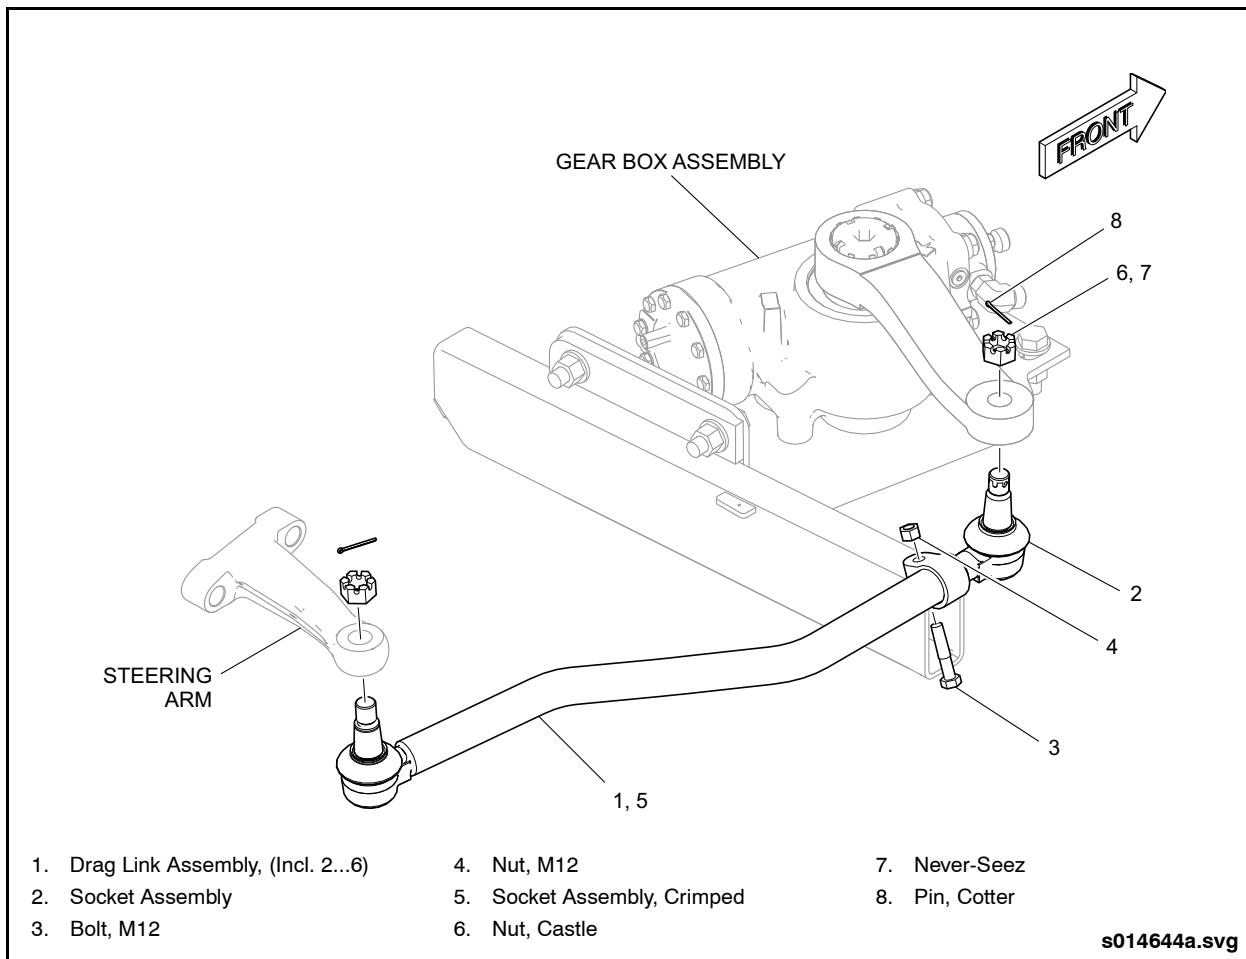

Fig. 3-15: Drag Link Installation
3. Remove castle nuts. See “Fig. 3-15: Drag Link Installation” on page 28.